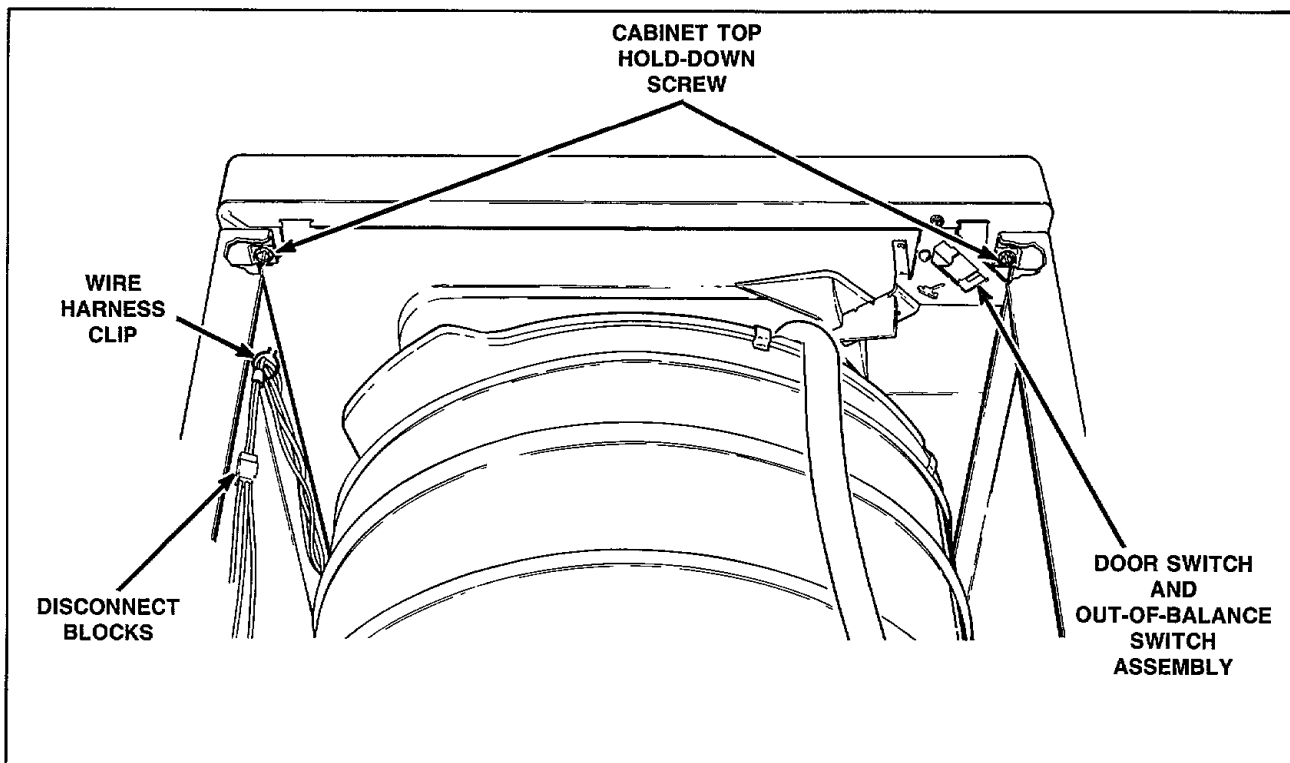

Figure 27
- b. Remove two cabinet top hold-down screws, *Figure 27*.
- e. Remove two cabinet top hold-down screws, *Figure 27*.